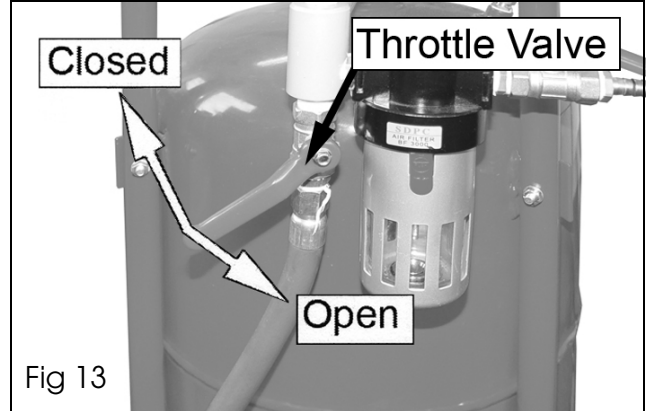

Fig 13
4. Open the throttle valve, Fig 13.